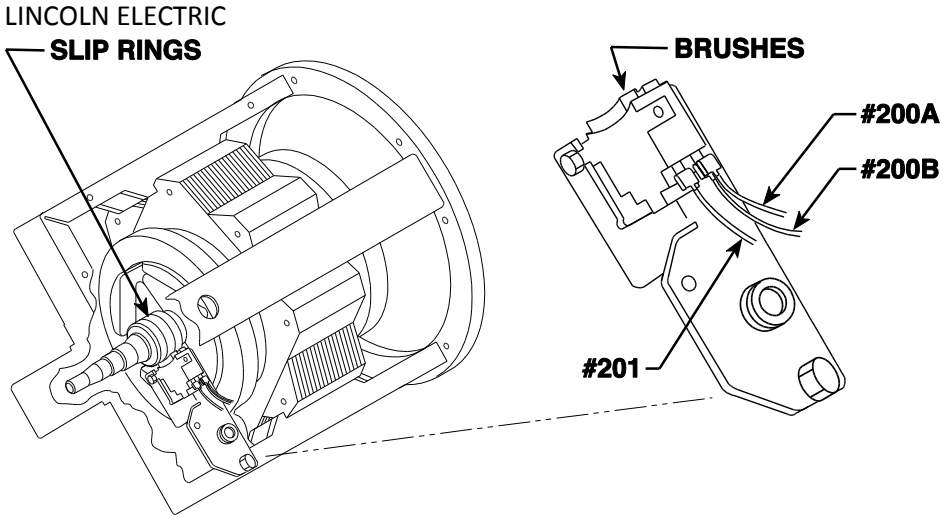

Figure F.8
2. Perform the Case Cover Replacement Procedure Note: **SEE FIGURE F.8** for general locations.